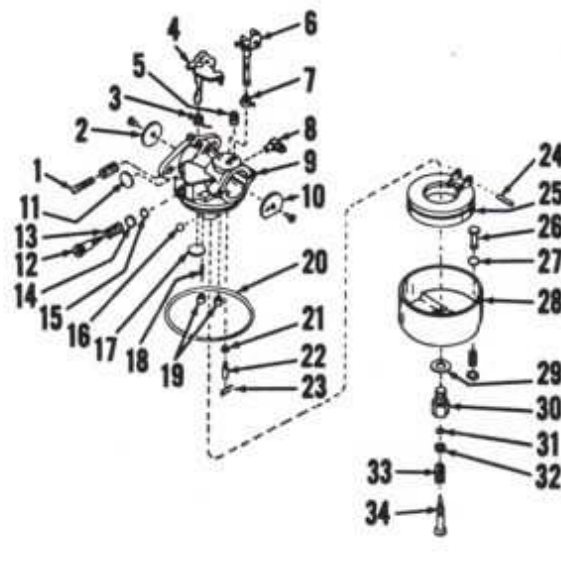

Fig. T1—Exploded view of Tecumseh carburetor.
TECUMSEH CARBURETOR. Clockwise rotation of idle mixture needle (12—Fig. T1) and main fuel adjusting needle (34) leans the mixture. Initial adjustment of both needles is 1 turn open. Final adjustment is made with engine running at normal operating temperature. Adjust main fuel needle for smoothest operation at high speed. Then, adjust idle mixture needle for smoothest engine idle. Adjust idle speed stop screw (1) for engine idle speed of 1800 rpm.
Install throttle plate (2—Fig. T1) with the two stamped lines facing out and at 12 and 3 o'clock position. The 12 o'clock line should be parallel to throttle shaft and to top of carburetor. Install choke plate (10) with flat side towards bottom of carburetor. Float setting should be 7/32-inch (5.5 mm), measured with body and float assembly in inverted position, between free end of float and rim on carburetor body. Fuel fitting (8) is pressed into body. When installing fuel inlet fit-